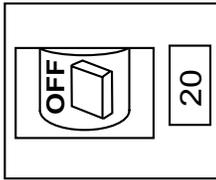

Figure 10. Main Circuit Breaker (OFF)
2. **NEVER** start the engine with the main circuit breaker in the **ON** position. Always place main circuit breaker (Figure 10) in the **OFF** position before starting.